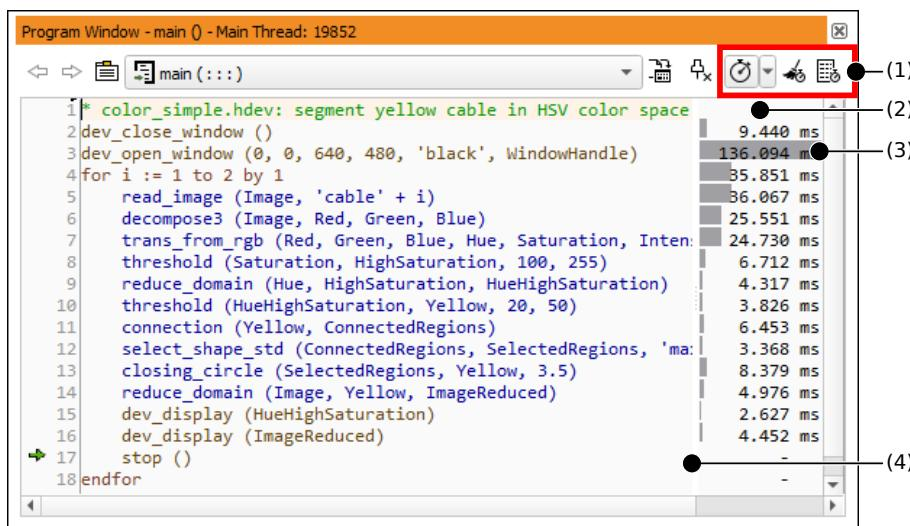

Figure 6.54: Profiling results of the first program execution.
To illustrate the way the profiler works, the HDevelop program *solution_guide/basics/color_simple.hdev* is loaded and executed (see figure 6.54). The profiling data is displayed in a separate column (2) of the program window. The display area can be resized by dragging its left edge (4).